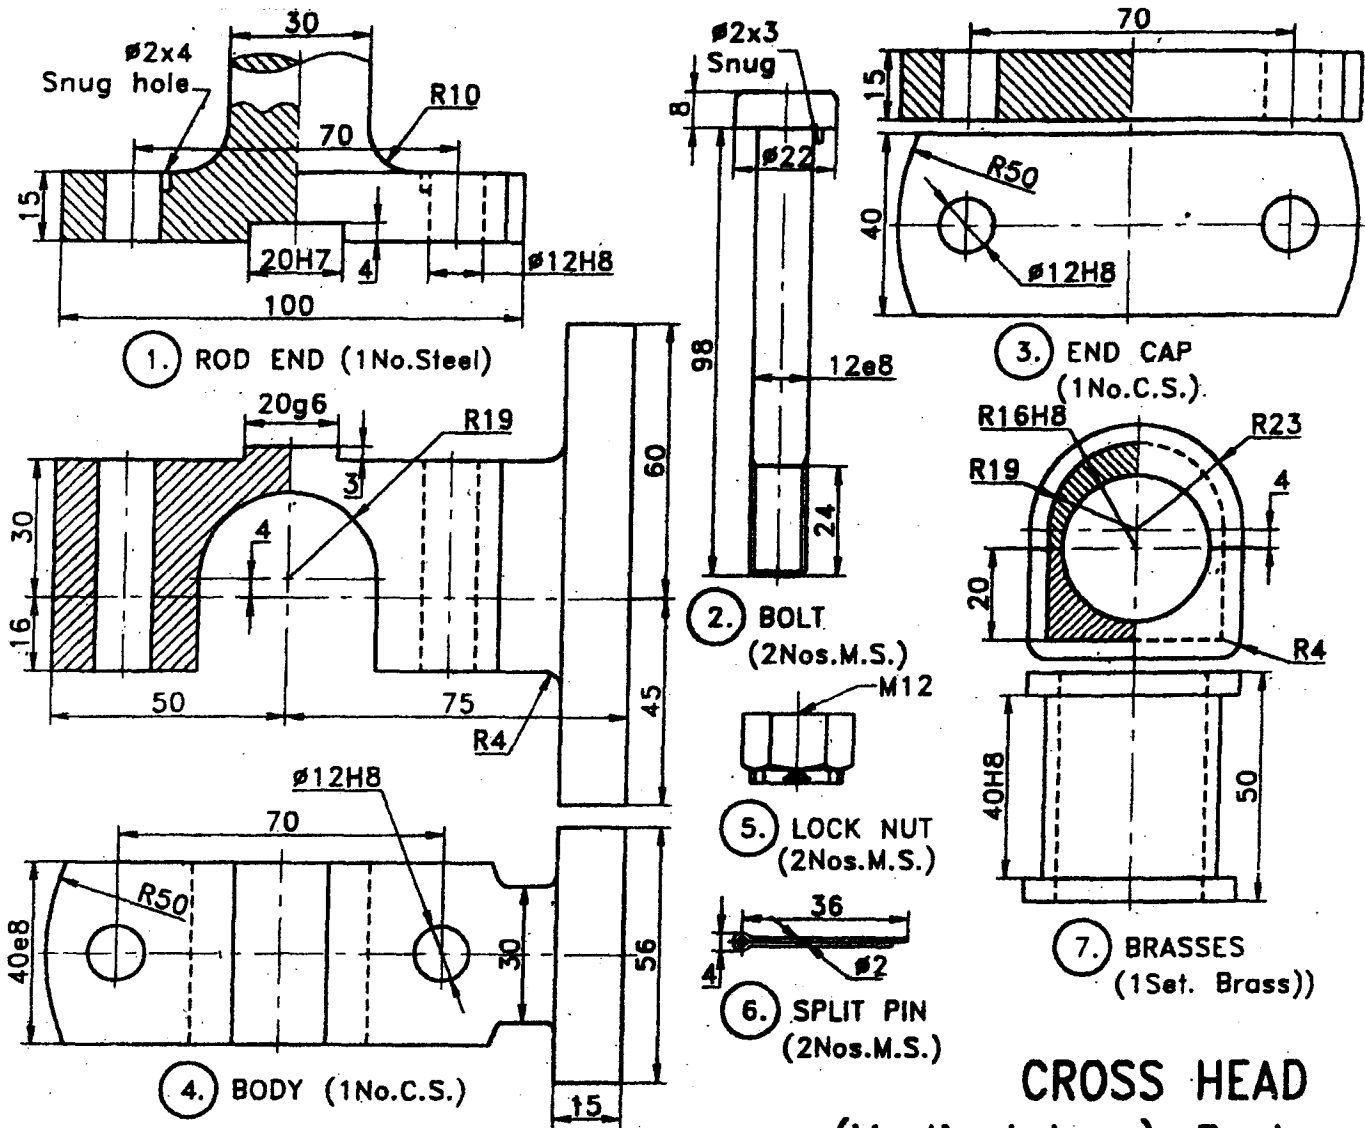

Fig.3
- VI. Fig.3 shows details of vertical type cross head. Assemble the parts and draw (40)